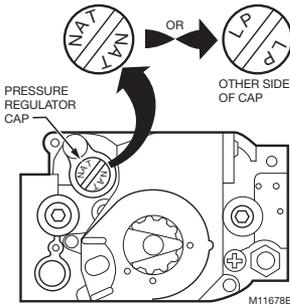

Fig. 1. Convertible Regulator for SmartValves.
1. Remove the pressure regulator cap. See Fig. 1.